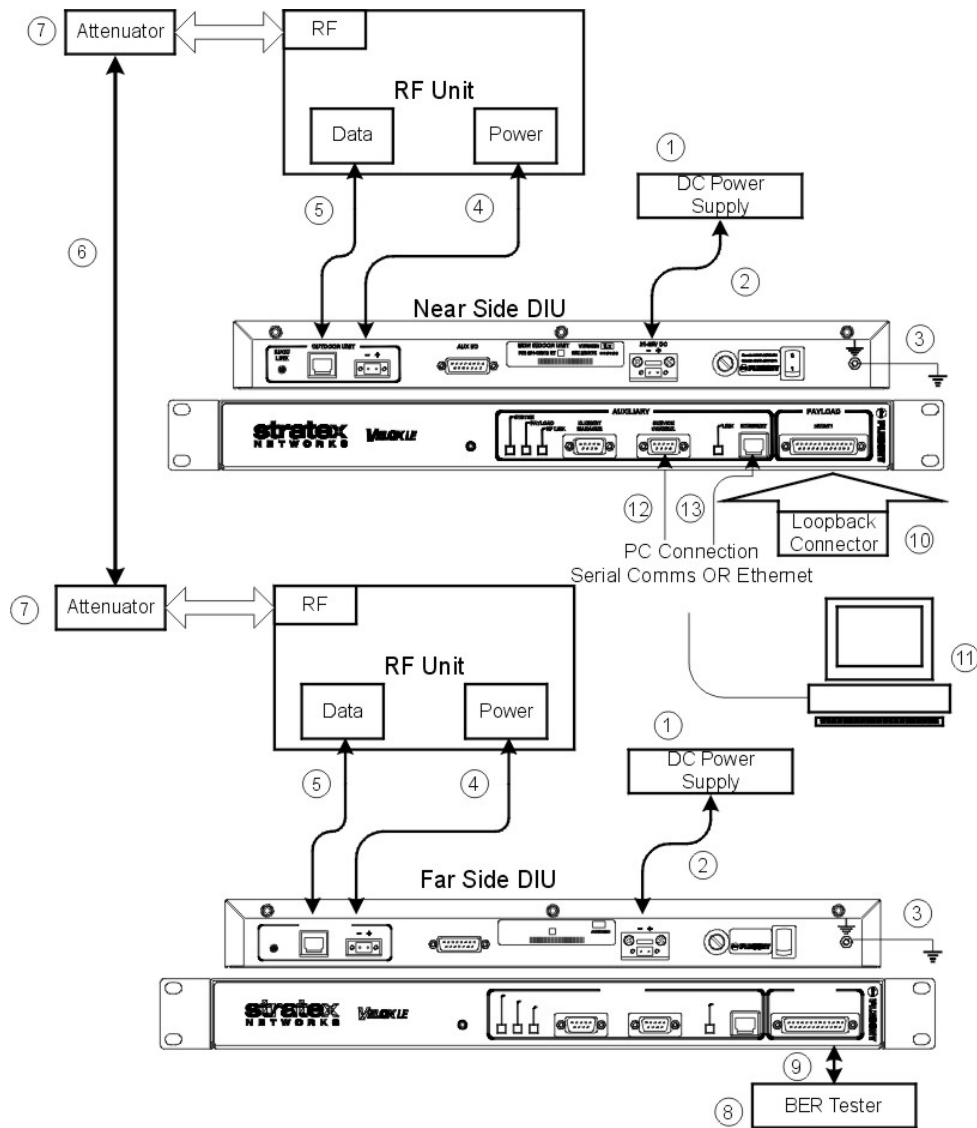

Figure 4-5. Velox LE System Connection for T1/E1 Bench Test (with PC)
1. Velox LE Installation & Operation Manual (This Manual)		Ensure that you understand: The use of the Reset Button when configuring the Velox LE (see Reset/Configuration Button (3) on page 3-7. How to interpret the DIU front panel LEDs (see DIU Status Diodes (2) on page 3-6 and DIU/RFU Link LED (7) on page 3-9).
3. Connect the Velox LE System as shown in Figure 4-5 on page 4-15 noting the following (the numbers in brackets following each note correspond to the numbers given on Figure 4-5):